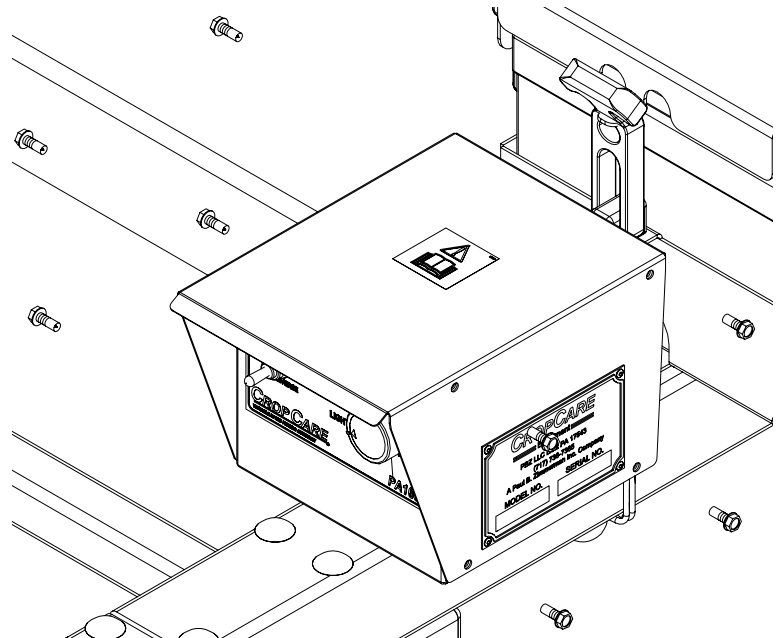

Figure 14: Reinstall the cover onto the new speed control/switch box.
- Reinstall the cover onto the speed control/switch box. (Figure 14)